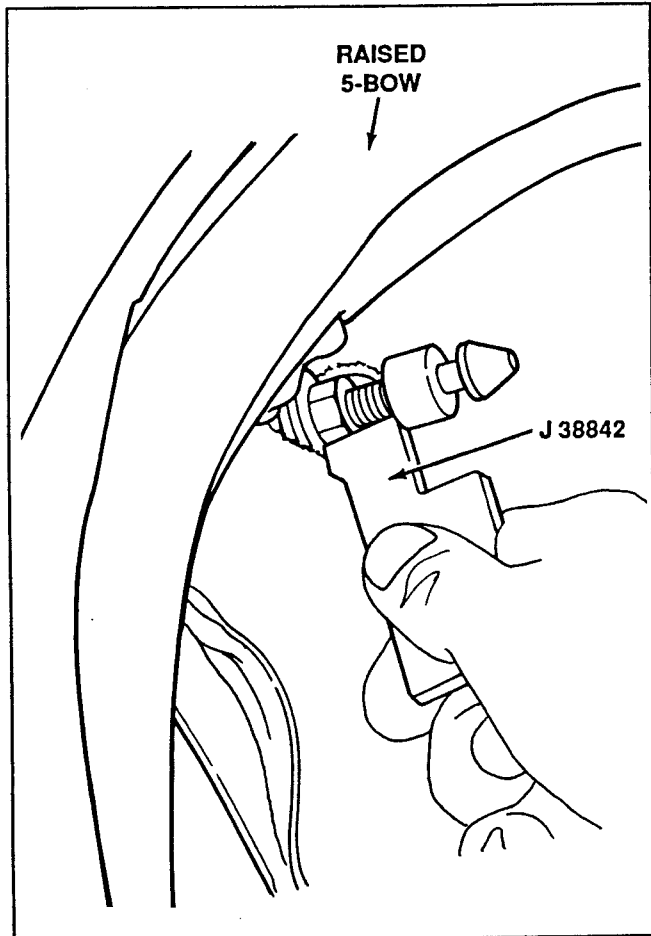

Figure 41. Measure 5-Bow Pin Clearance
5. Use the tool to measure pin-to-5-bow clearance. The correct distance is between 9 mm to 11 mm (Fig. 41).